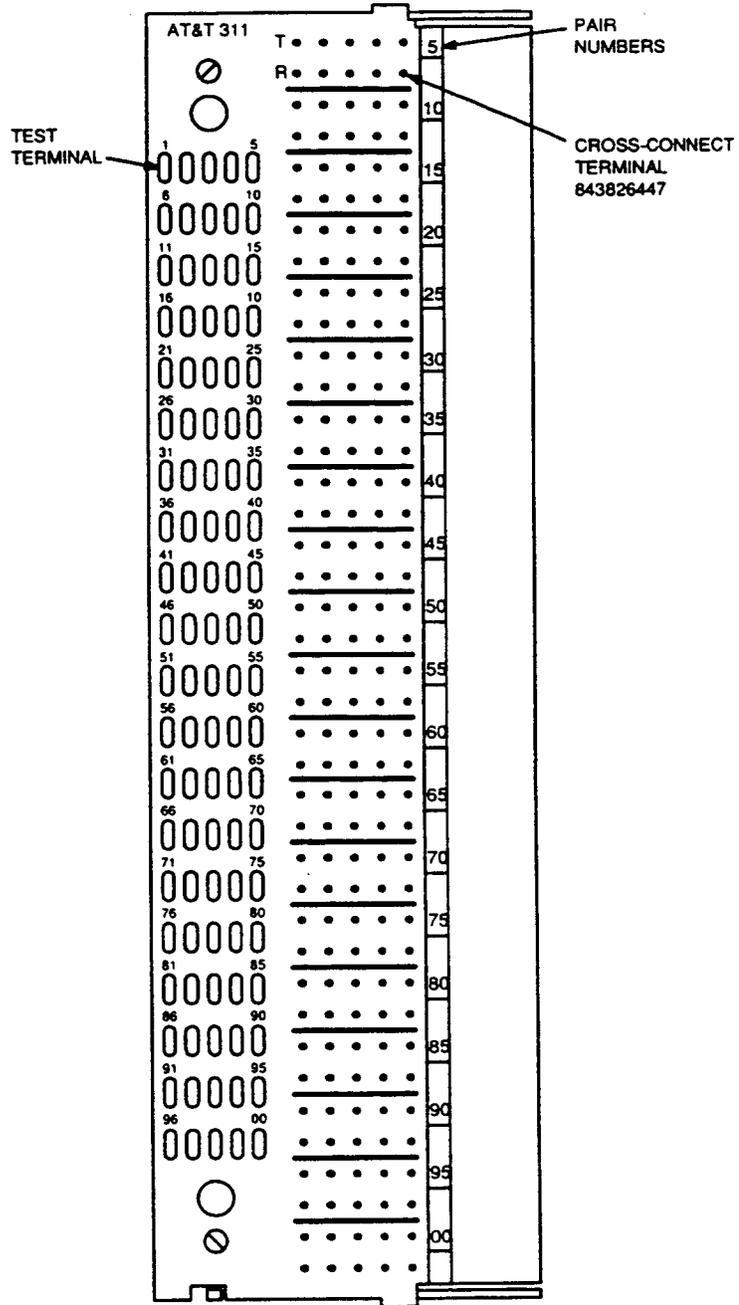

Figure 8. 311-Type Connector, Front View
4.07 To remove the 843826447 cross-connect tip or ring terminal (Figure 8), proceed as follows: